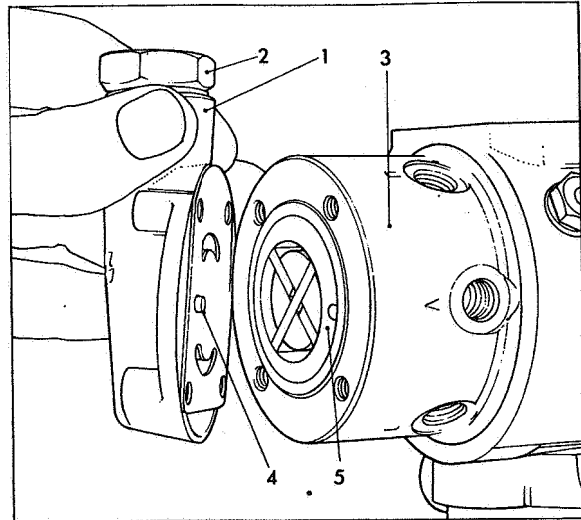

Fig 26 Fitting end plate assembly
Place the end plate (1) Fig 26 with the inlet connection (2) uppermost onto the hydraulic head (3) ensuring that the dowel (4) on the inner face of the end plate engages in the slot in the transfer pump liner (5) as shown.